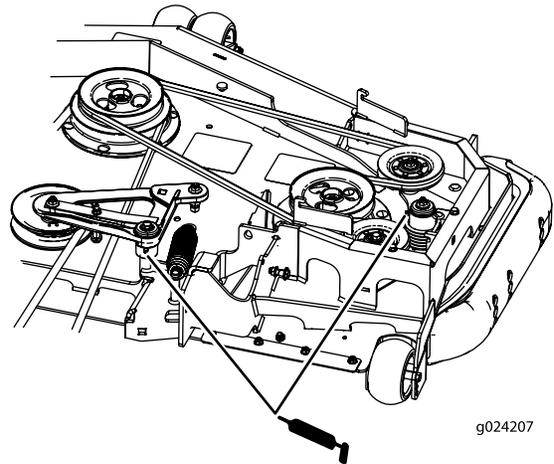

**Figure 52**
4. Grease the drive-belt idler arms (Figure 52).